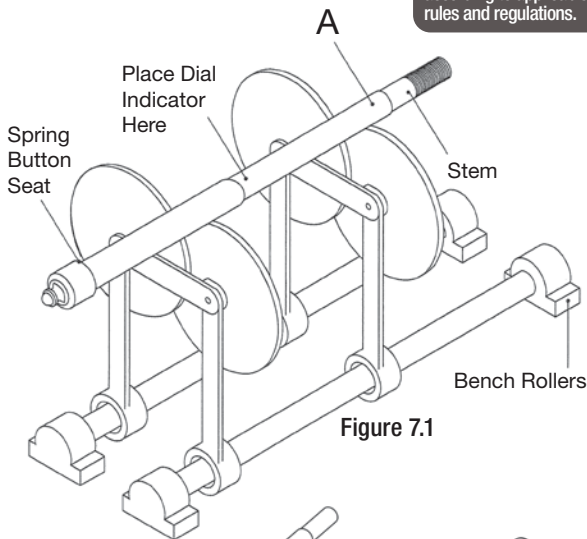

Figure 7.1
2. Check the critical stem areas for concentricity using the following procedures (Figure 7.1 and 7.2):